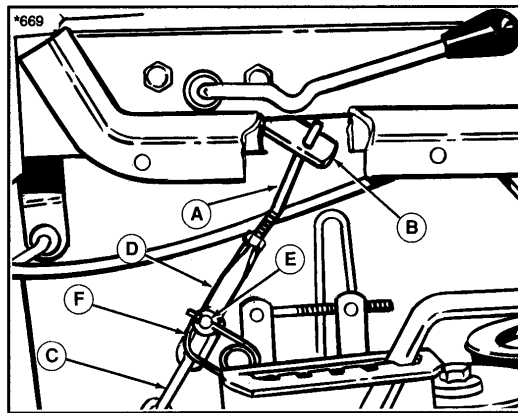

Figure 3. Lift Assembly
- Insert the link (A, figure 3) into lift arm (B) then pivot back and down. Secure chain (C) to clevis (D) with pin (E) and clip (F). Use on three links of chain.